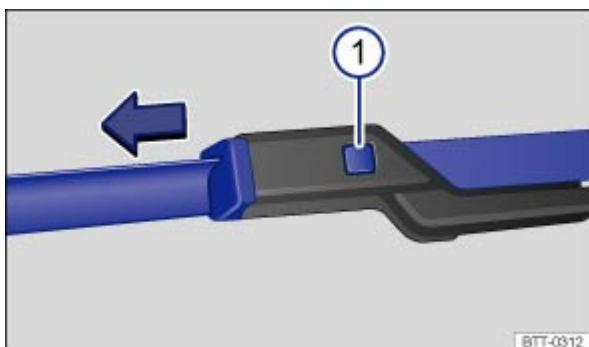

Fig. 167 Changing the windshield wiper blades.
- Press and hold the release button \Rightarrow Fig. 167 ① .